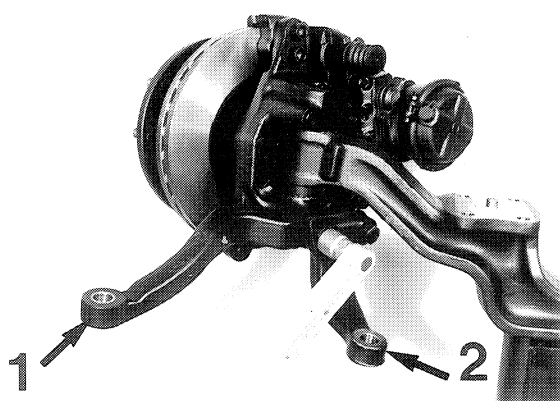

Figure 105
**Mount right axle casing side accordingly (Figure 105 to 112)!**